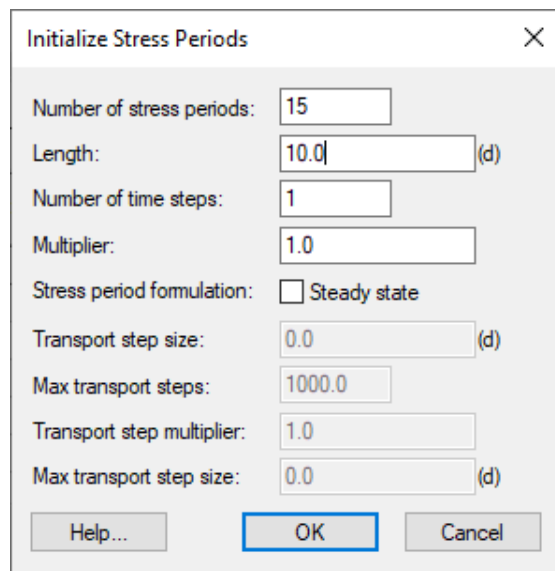

Figure 7 Initialize Stress Periods dialog
14. Leave the remaining settings at their defaults (Figure 7) and click **OK** to close the *Initialize Stress Periods* dialog.